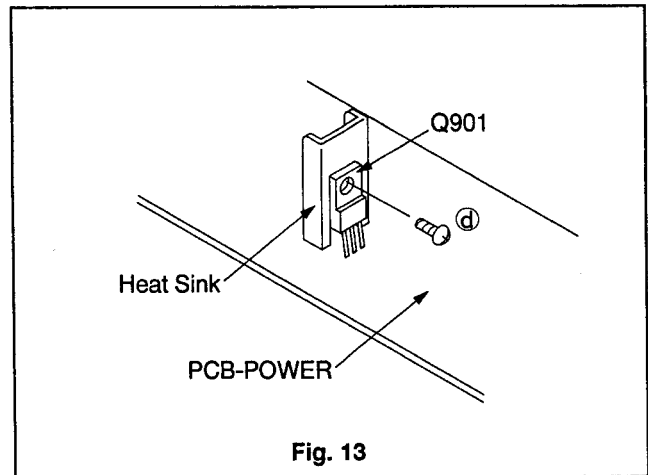

Fig. 13
2. Remove the one fastening screw (ⓓ) shown in Fig. 13.